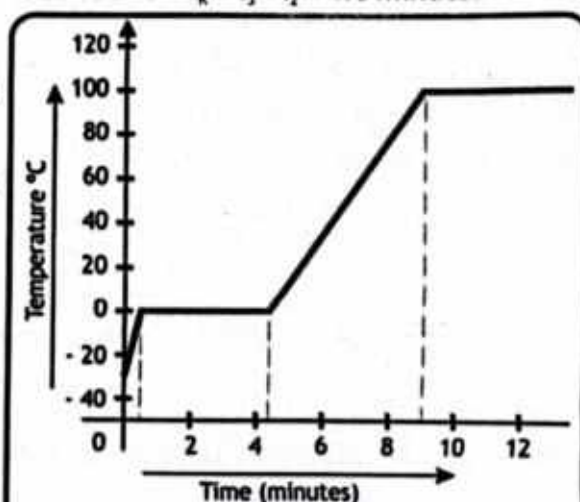
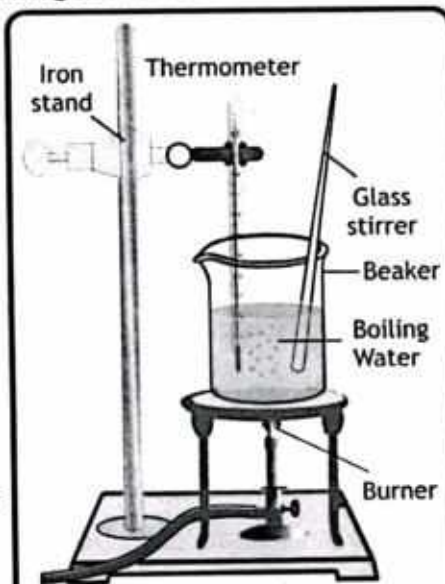

FIGURE 11.18
FIGURE 11.19
11. Draw a temperature-time graph such as shown in figure 11.18.
To find latent heat of vaporisation of water, we keep on heating beaker contains boiling water as shown in figure 11.18. Continue heating water till all the water changes into steam. Note the time taken by water to change completely into steam at its boiling point 100°C . Extend the temperature-time graph such as shown in figure 11.19. Let's calculate the latent heat of fusion of ice from the data as follows: